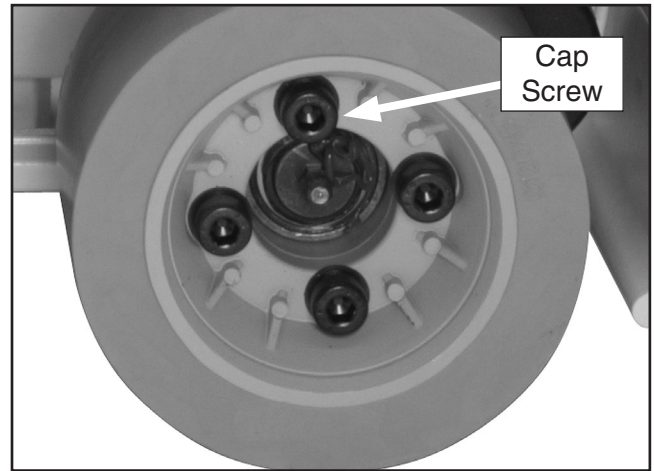

Figure 17. Wheel cap screws.
2. Using a 5mm hex wrench, remove the wheel retaining cap screws (**Figure 17**).